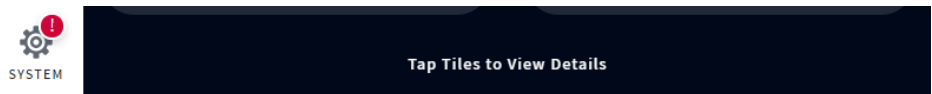

Fig. 15.10
2. Tap on the UPDATES tab. In this example, the Base Station option requires attention. See Fig. 15.10.